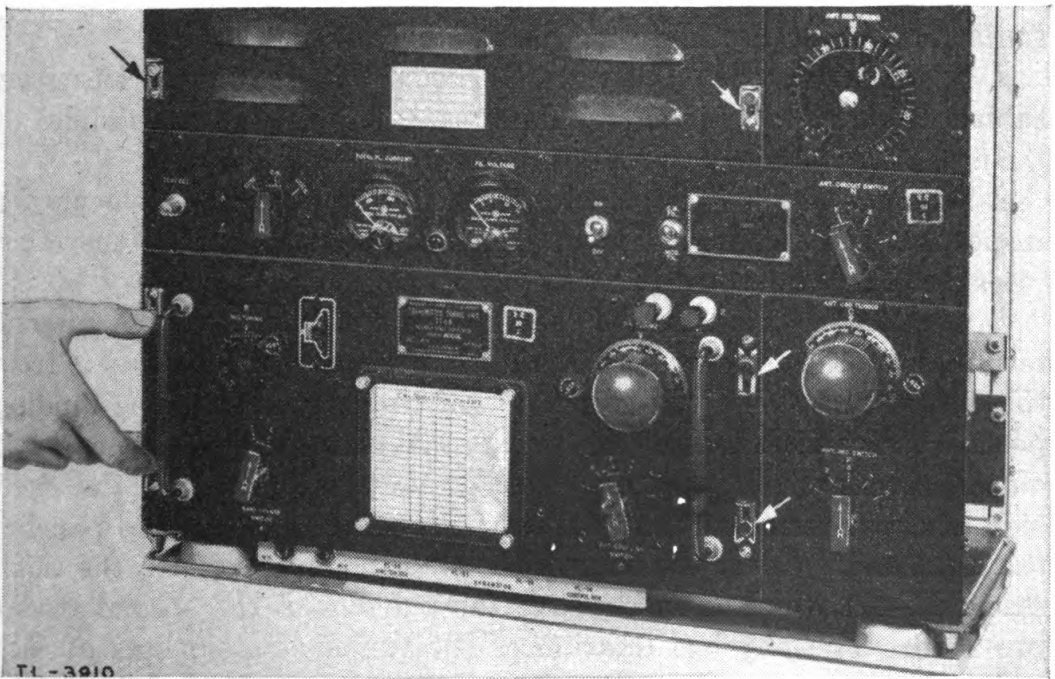
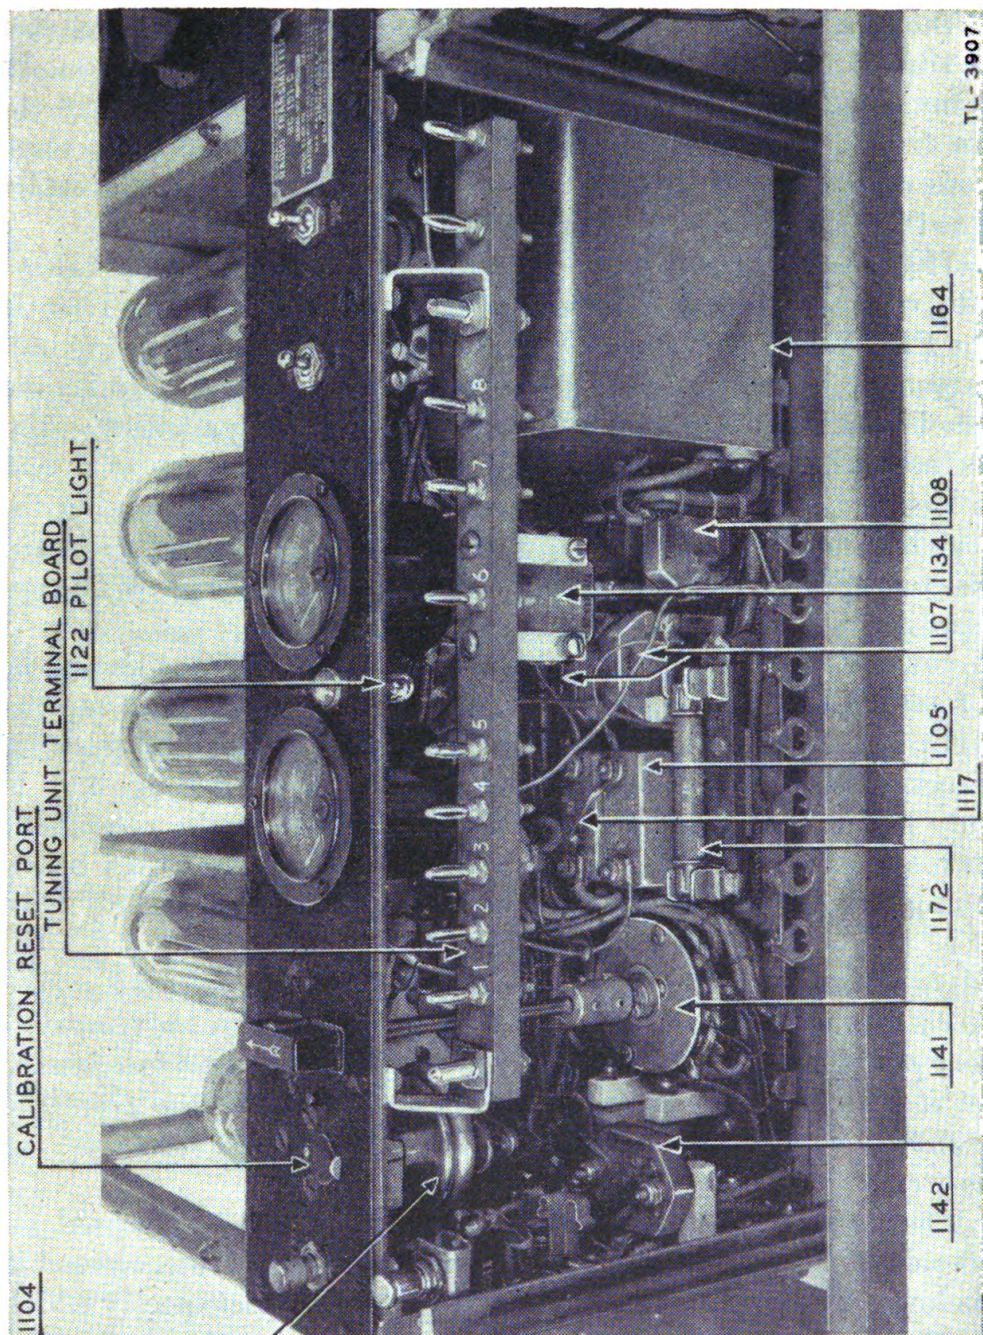

FIGURE 1.—Location and operation of snap slide catches on radio transmitter BC-191-(*)—front panel.
FIGURE 3.—Tuning unit receptacle in radio transmitter BC-191—(*) from front and below, showing pilot light and fuse holder location.
c. Below this panel is a compartment provided with metal guides. A transmitter tuning unit inserted in this compartment connects to the transmitter circuits by means of jacks and plugs mounted on insulated strips. (See fig. 3.) When inserted, it is locked in place by means of four snap slide catches. (See fig. 1.) The front panel of the tuning unit is then flush with the transmitter front panel and the tuning unit becomes an integral part of the transmitter.
a. Minor installations.—(1) All control knobs, jacks, and switches on the transmitter are identified in this manual by their actual markings; for example, the three-position switch at the left end of the narrow front panel is marked TONE C. W. VOICE above the three positions of the switch pointer. In this manual this switch is designated as the TONE C. W. VOICE switch.
(2) If necessary, insert a pilot lamp LM-27 in the socket behind the ruby reflector located between the TOTAL PL. CURRENT meter and the FIL. VOLTAGE meter just above the transmitter tuning unit compartment. (See fig. 3.) Do this by slipping the lamp up behind the panel before inserting the tuning unit in the compartment. The bulb is inserted and turned to lock it in place.
(3) Remove the cover from the tube compartment by releasing the slide catch fasteners as shown in figure 1. Insert the five tubes in the sockets marked with the corresponding Signal Corps VT type numbers.
(4) Inspect the fuses located in the transmitter. There should be three fuses FU-12-A, one in use and two spare. The one in use fits in the clip located above the tuning unit receptacle and behind the pilot lamp socket at the rear of the transmitter frame. (See fig. 3.) It can only be inserted when there is no tuning unit in the receptacle. The two spares are mounted on clips on the bottom shelf just below the tuning unit receptacle and near the front of the transmitter. (See fig. 22.)